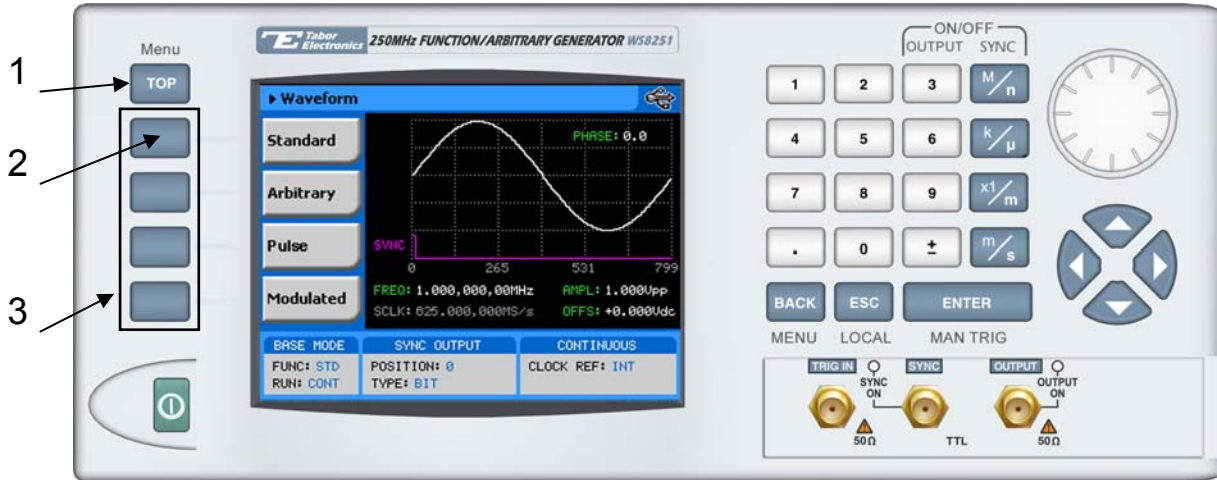

Figure 3-4, Selecting an Output Waveform Type
Refer to Figure 3-4 and use the following procedure to select an output type.
Note that there are sub-menus associated with each output type menu. Accessing and using these sub-menus is described later in this chapter. The numbers on Figure 3-4 correspond to the procedure steps in the following description.
2. Press Waveforms, the display as shown in Figure 3-4 will open.